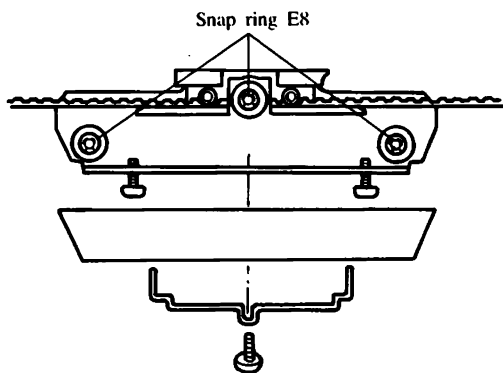

Fig. 79-1
12.1 Disassembling the Shuttle Base (See Fig. 79-1)